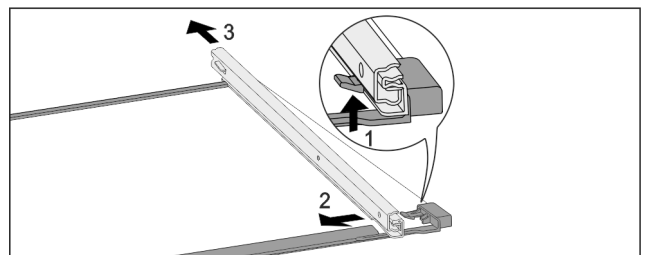

Fig. 191 Glass shelf with rails
- ▶ Push up front click-in hooks. Fig. 191 (1)
- ▶ Move the pull-out rails to the side Fig. 191 (2) and to the rear Fig. 191 (3).